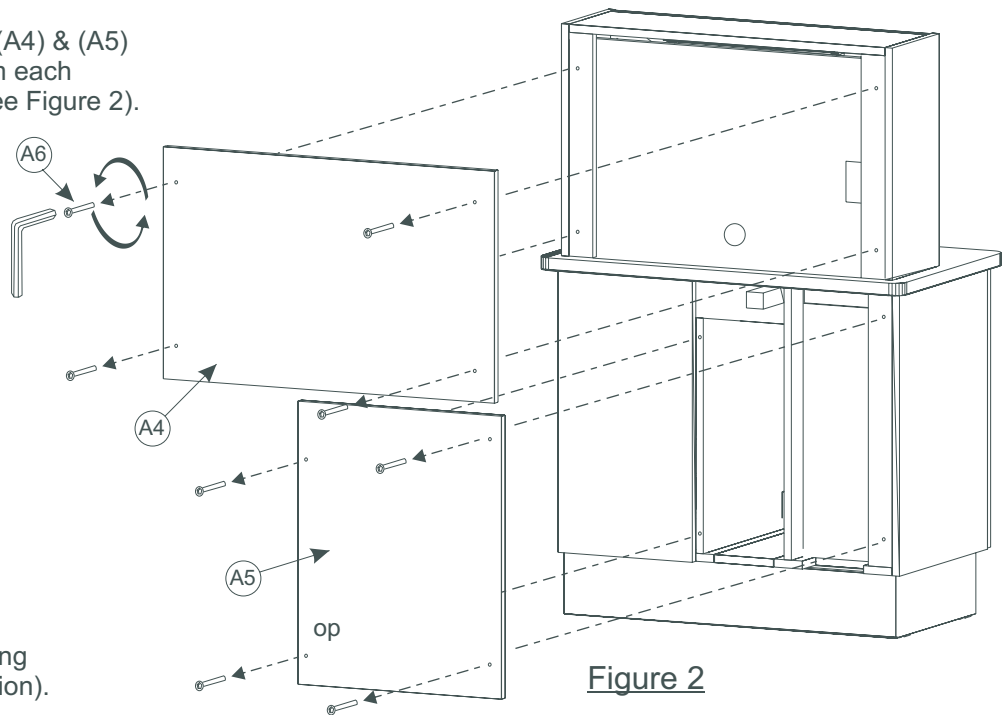

Figure 2
Remove Upper/Lower Back Panels (A4) & (A5) by removing (4) Allen Bolts (A6) from each panel using a 4mm Allen Wrench (see Figure 2).